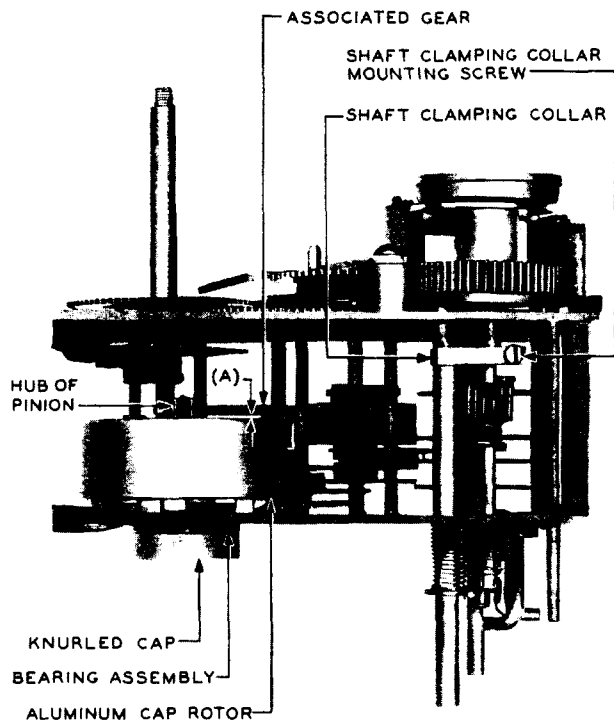

Fig. 4 - Illustrating Motor With Aluminum Cap Rotor
- (b) **Motors Equipped With Aluminum Cap Rotors:** Fig. 4(A) — With the motor shaft resting in its bearing, the hub of the pinion on the motor rotor shall not touch its associated gear.